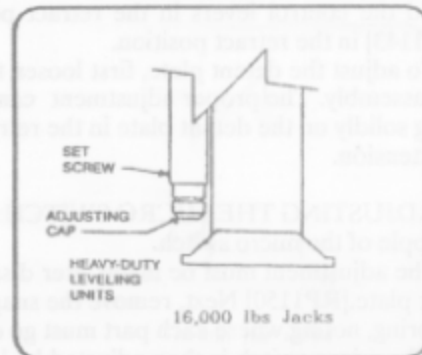

Fig. 4
3. 16000# JACKS: If the jack stopped short of being vertical, loosen the set screw and turn the adjusting cap clockwise. If the jack went beyond vertical, loosen the set screw and turn the adjusting cap counterclockwise. After each counterclockwise adjustment, the weight of the coach must be applied to the jack to make the adjustment effective. DO NOT adjust cap more than one turn without cycling the jack.[Fig.4]